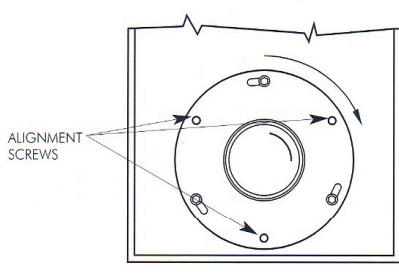

Figure 5
- 2 To make your final adjustment, simply turn the sheet of glass left to right and repeat the procedure. The left to right adjustment screws are accessed through the two small holes at the back of the mounted lens board. See Figure 5.